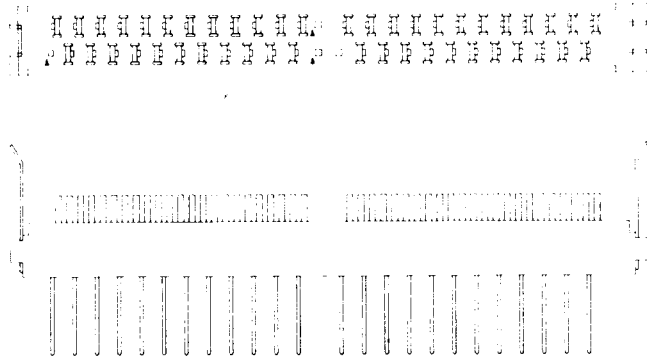

Fig. 7—926-Type Connectors
2.09 926E, F, G, and H: The 926-type connectors (A and M only) (Fig. 7) consist of a molded housing of colored insulating material. The terminals on the terminal end are arranged for solderless wire wrap connections using 22- through 26-gauge wire and is able to mate with the 920A or 923A connectors.